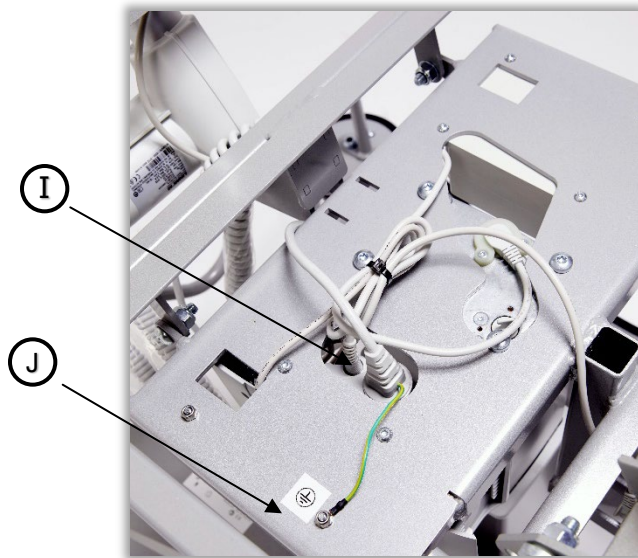

FIGURE 8. TOP FRAME
5. Undo the bolt (J) that holds the earth point wire in place (**Figure 8**).
6. Simultaneously, press-in the red retainer clips on each side of the power cable (I), to enable the removal of the cable (**Figure 8**).